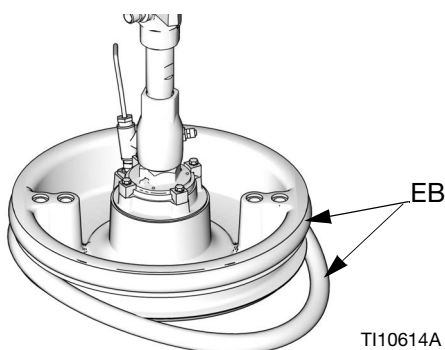

FIG. 43
1. Using a wooden or plastic tool to prevent damage to the Wiper (EB), clean all material from the seal grooves.
2. *Working from the bottom*, angle one Wiper (EB) over the back of the Platen (AD). See FIG. 43.
3. Insert the Wiper (EB) in the top groove and run the front of the Wiper into the groove.
4. If using a 55 gallon Platen, insert the second Wiper (EB) in the lower groove and run the front of the Wiper into the groove.